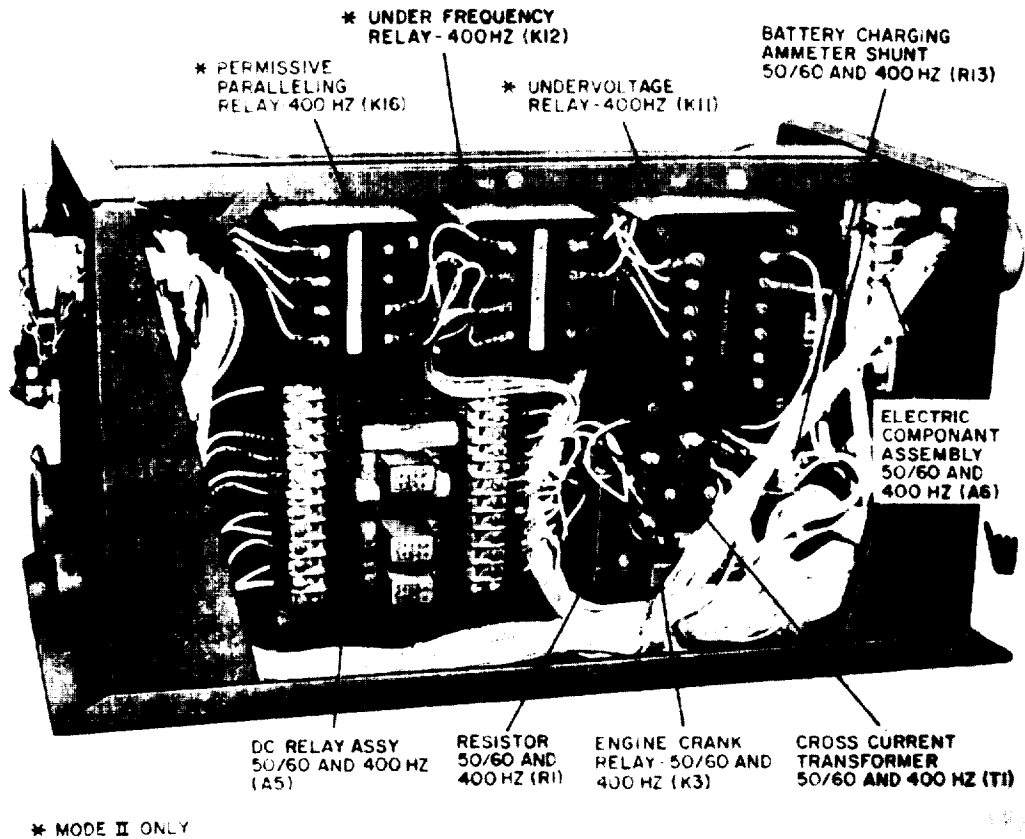

Figure 6-22. Mode I and mode II relay box assembly, cover removed
b. Removal. Refer to figure 6-22 and tag, then disconnect wiring to the DC relay terminal board. Remove the four nuts securing the relay in position.
6-94. **INSTALLATION.** Refer to figure 6-22 and install the DC relay assembly. Secure the assembly in position with four nuts, then refer to figure 1-15 and reconnect wiring to the relay terminal board. Replace mode I relay box cover.
6-98. DISASSEMBLY, Refer to figures 6-22 and 6-26, and disassemble the mode I relay box assembly in the order of index numbers assigned. Pay particular attention to the following.